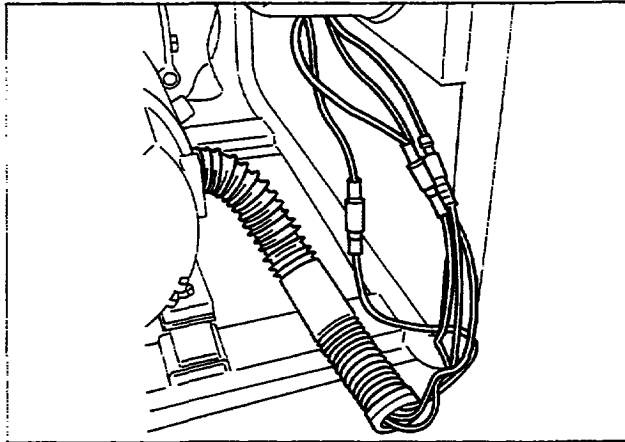

Fig. 10-1
(2) Disconnect the connectors on the wiring from the control box to the alternator. (See Fig. 10-1.)	Press the upper end of the bushing and pull out.